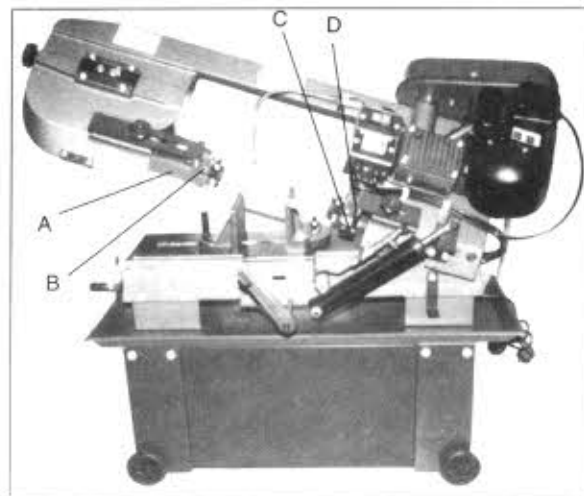

Fig.10
3. Remove red blade guard assembly (A, Fig. 10) by removing two screws (B).